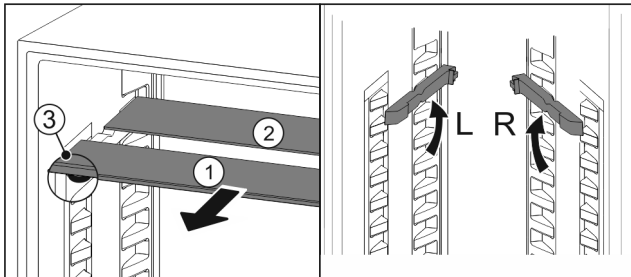

Fig. 88
- Pull the glass panels out Fig. 88 (1) from the front, one at a time.
- The glass panel Fig. 88 (1) and trim strip are at the front.
- The stops Fig. 88 (3) point down.